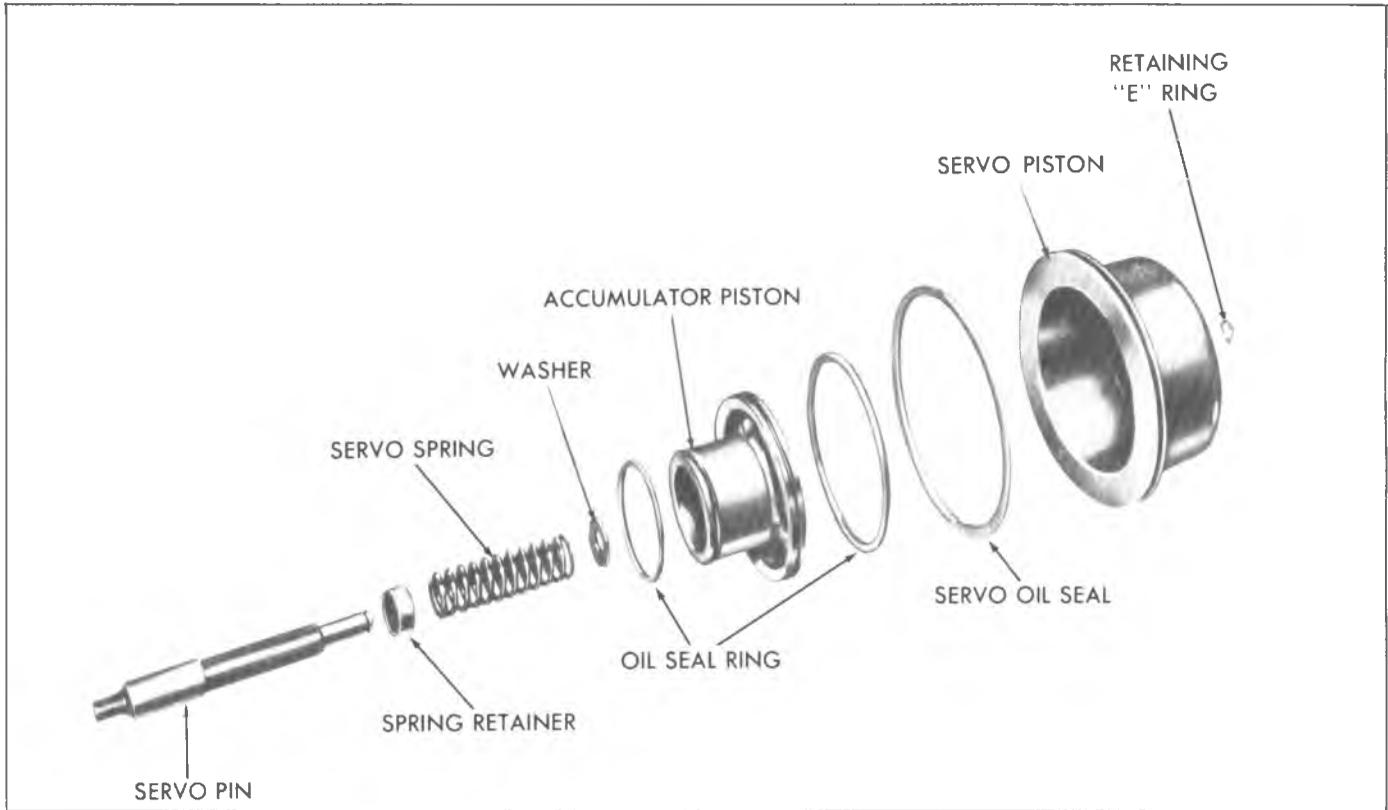

Fig. 52T--Rear Servo and Accumulator Assembly--Exploded View
3. Remove rear servo piston and seal from servo pin (fig. 52T). (Exploded view.)
NOTE: See figure 52T. Do not remove the teflon oil seal rings from the rear accumulator piston, unless the oil seal rings require